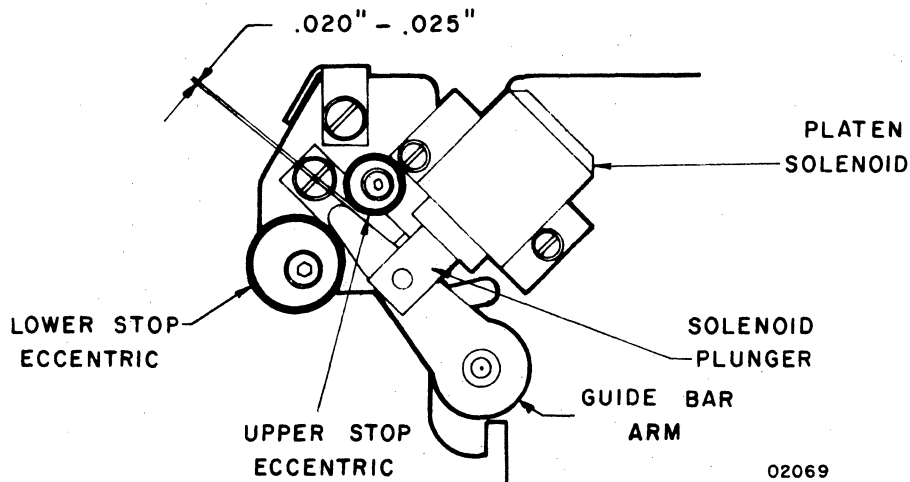

Figure NIP6. Guide Bar Arm Travel
- 14) Using a feeler gauge, check the clearance between the upper stop eccentric and the guide bar arm. The clearance must be 0.020 to 0.025 inch (see figure NIP6). If adjustment is required, loosen one socket-head screw to permit rotation of lower stop eccentric. Place a 0.022-inch gauge between the guide bar arm and upper stop eccentric. Rotate lower stop eccentric until contact is made between guide bar arm, gauge, and upper eccentric. Tighten screw.